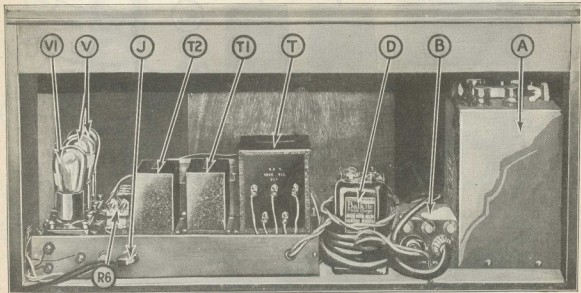

Fig. 2. A rear view of the "B" power unit and resistance coupled amplifier. The trickle charger can be seen at D. B is the automatic magnetic relay.
Fig. 2.—Interior view of the receiver. A 199 tube is employed in the R.F. socket and a 201-A in the detector socket.  $C_1$  is the adjustable neutralizing condenser.
A unique and highly practical method of remote power control has been incorporated in this receiver. The red pilot lamp on the panel switch glows whenever the set is in use, and serves not only to control the filament circuits of the different tubes but, by means of an automatic magnetic relay (B in Figs. 2 and 6), to switch the lamp-socket power to either the trickle charger (D) in the "A" power unit or to the "B" power unit and the filament of the power tube in the set, as required.